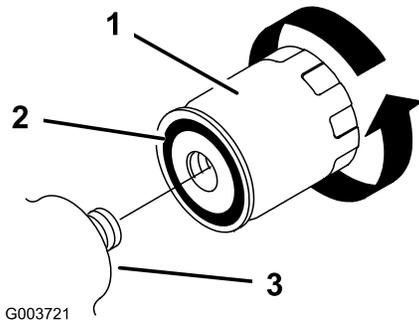

Figure 31
5. Remove the old filter (Figure 31) and wipe the surface of the filter adapter gasket clean.
6. Apply a thin coat hydraulic fluid to the rubber gasket on the replacement filter (Figure 31).
7. Install the replacement hydraulic filter onto the filter adapter (Figure 31). Tighten it clockwise until the rubber gasket contacts the filter adapter, then tighten the filter an additional 1/2 turn.